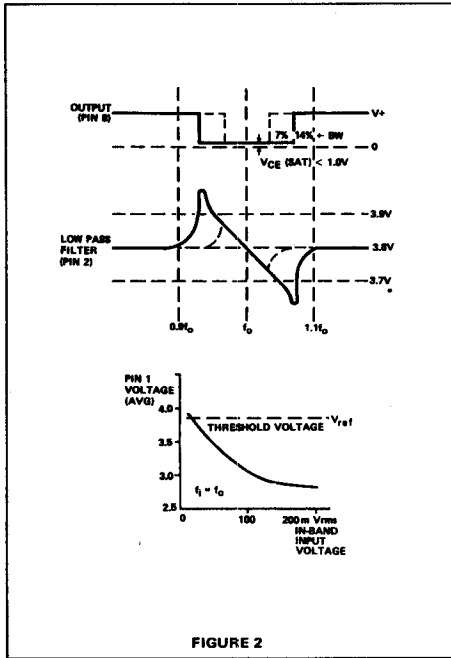

FIGURE 2
**AVAILABLE OUTPUTS (Figure 2)**